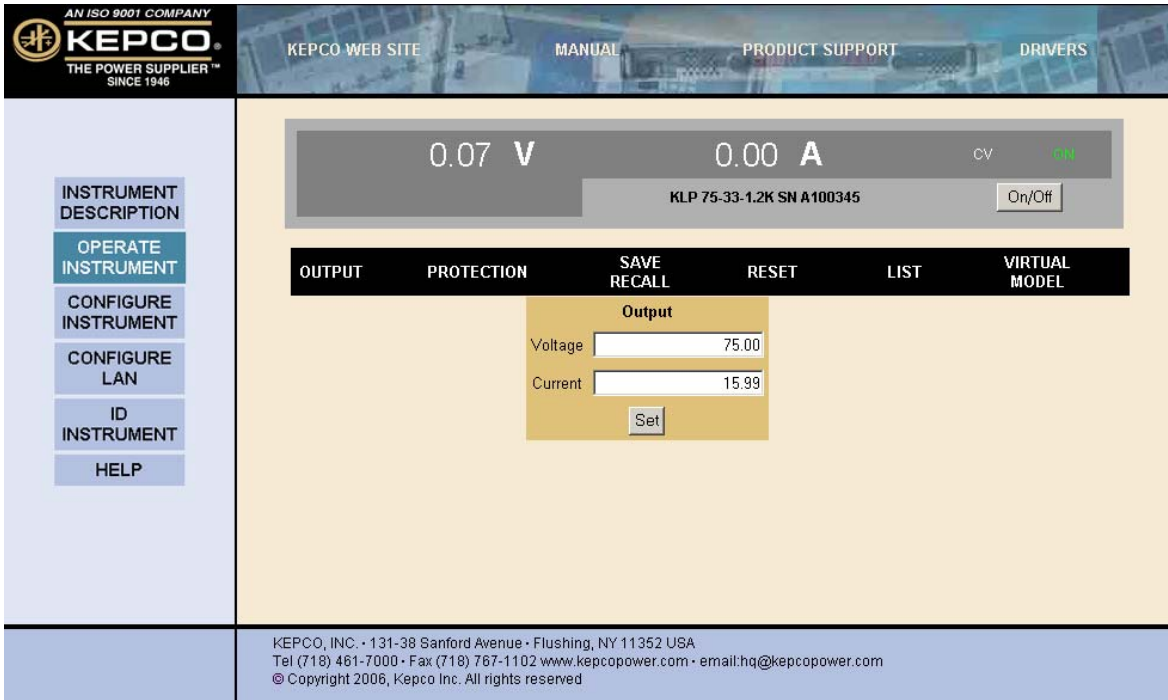
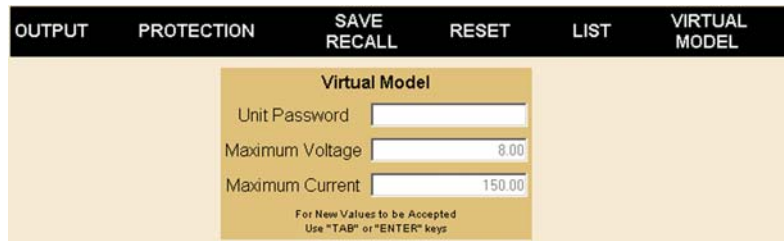

FIGURE 3-7. WEB INTERFACE OPERATE INSTRUMENT PAGE
FIGURE 3-13. VIRTUAL MODEL DIALOG BOX
The Output dialog box opens when the OPERATE INSTRUMENT page is first opened, or when **OUTPUT** is clicked (see Figure 3-7). To set output voltage or current, enter the values and click SET. Voltage and current settings are not allowed to exceed either a) the virtual model setting or b) 83.3% of the protection value. Attempts to set voltage or current beyond these limits will not be accepted. To turn the output on or off, click the ON/OFF button within the simulated front panel.
- **To save the active settings:** Enter the desired location (1 to 40) in the **LOCATION** box and click **Save State** button to save the active settings. Only the parameters shown in Figure 3-7 can be saved.
Refer to PAR. 3.2.9 for details about what Virtual Model means for KLP and how the virtual model affects other parameters. Click **VIRTUAL MODEL** (Figure 3-7) to open the Virtual Model dialog box (Figure 3-13). The current virtual model settings (gray) are displayed. To change the settings enter the Unit Password (see PAR. 3.2.8) and press ENTER key on the computer keyboard. After the password is accepted, the Unit Password field is inaccessible (gray) and the Maximum Voltage and Maximum Current fields can be changed. Enter the desired maximum voltage or maximum current; the other field will be filled in automatically for a maximum of 1200 Watts, then press ENTER key; all fields are gray for a second or two while the power supply accepts each entry. The Password field is reset after leaving the Virtual Model dialog box